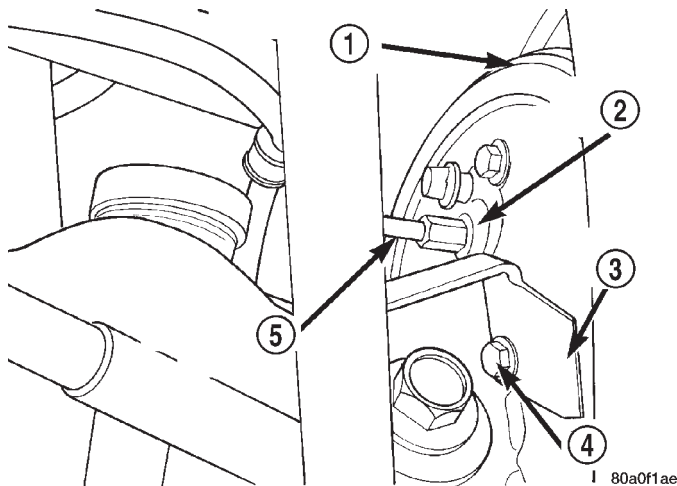

Fig. 120 Brake Flex Hose Tube At Wheel Cylinder
(6) Disconnect rear brake flex hose tube from wheel cylinder and remove the brake flex hose bracket from the brake support plate (Fig. 120).